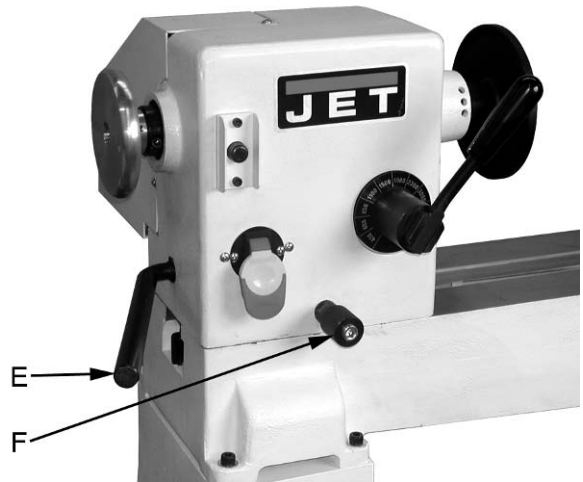

Figure 4
- E. **Headstock Lock Handle:** (E, Fig. 4)
- F. **Headstock Indexing Pin:** (F, Fig. 4)